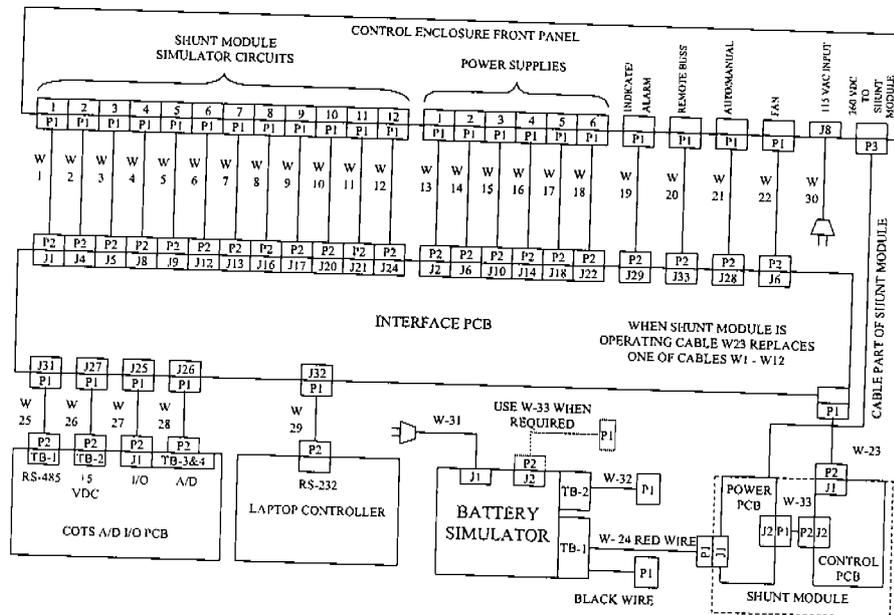

FIGURE 5-1 EXTERNAL CABLE DIAGRAM
- 5.2 Install checkout A/D I/O Board in accordance with Figure 5-1
- 5.3 Install checkout Interface Board in accordance with Figure 5-1
- 5.4 Install checkout Shunt Module Assembly in accordance with Figure 5-1
- 5.5 Verify proper wiring of all boards in accordance with Figure 5-1